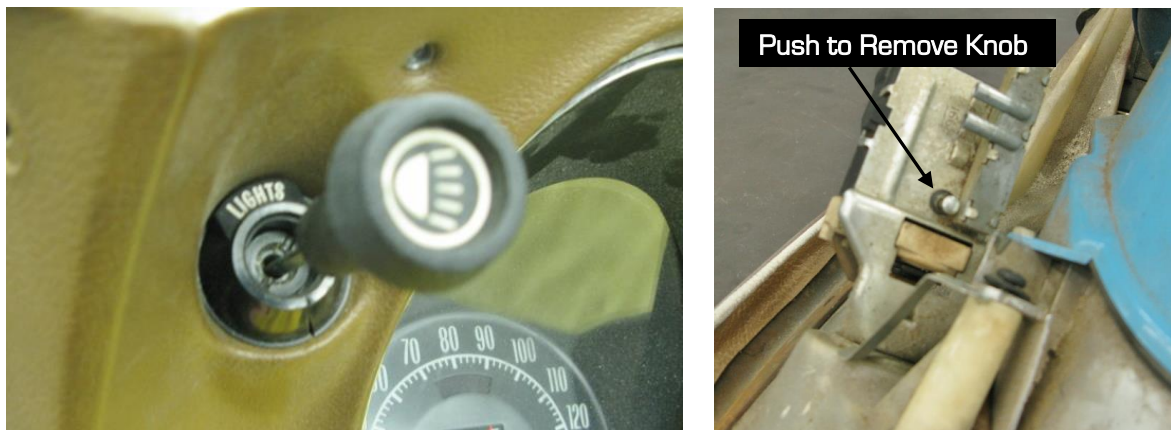

Figure 23 - Remove Headlight Knob
26. Unplug the headlight switch connector to have better access behind the gauge cluster. Remove the headlight switch knob by pulling the switch out as far as it will go. Pull the headlight knob out of the switch while holding down the release button on the top of the switch (Figure 23).